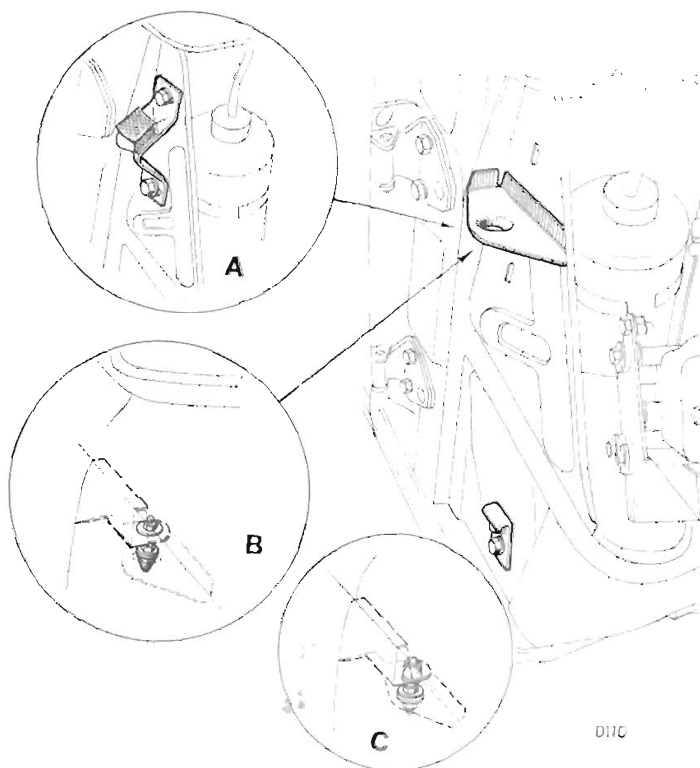

Fig. 12. Bonnet height adjusters (all models)
Lift or lower the front of the bonnet until parallel clearance between the bonnet and door is obtained. Tighten the link bolts (7) and (8). During this movement, the rear of the bonnet will pivot on the bracket shown arrowed on Fig. 12.
### Height Adjustment (Fig. 12).